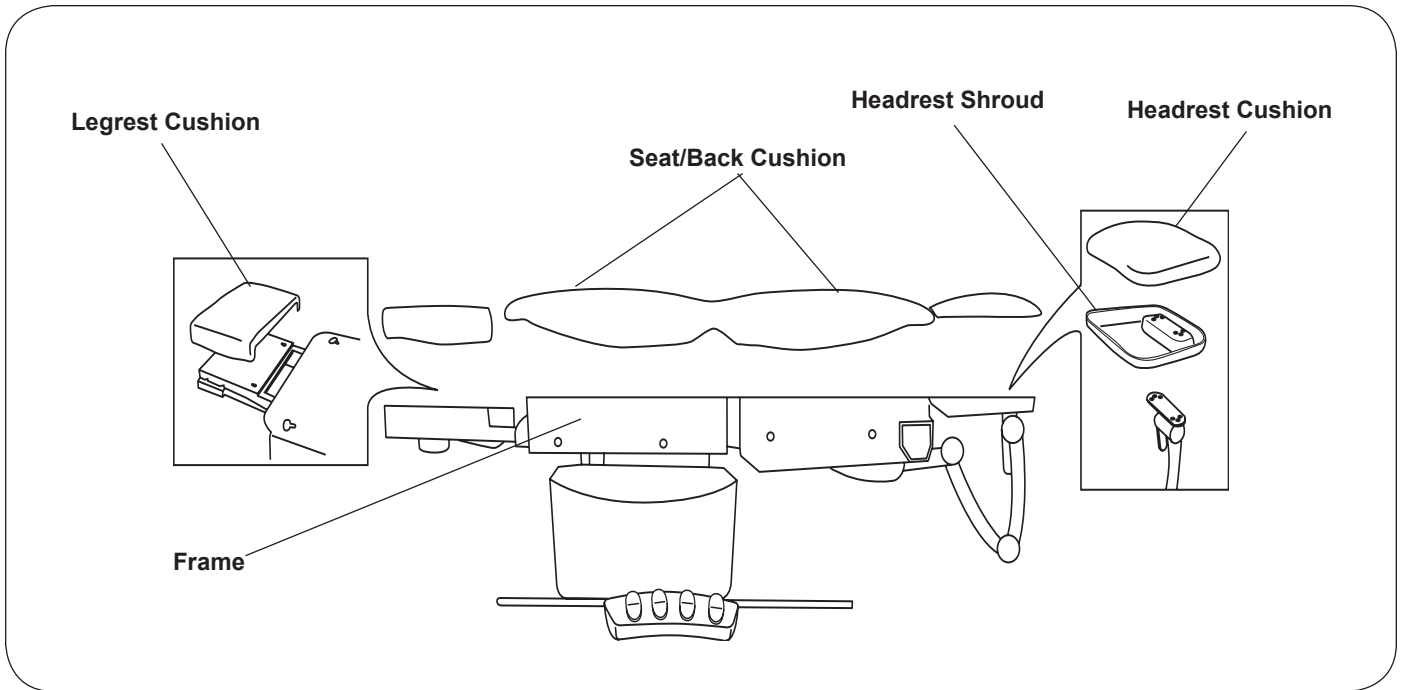

Figure 7. Installing the Upholstery
1. Refer to the *Operation* section in this manual and position the table so the seat, back and legrest are flat (in the horizontal position). (Figure 7)